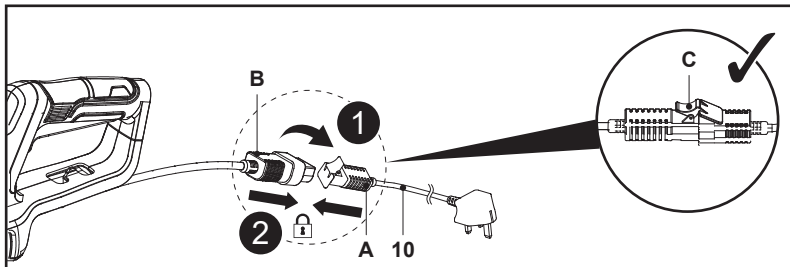

Fig. 2
1. Open the lid (C) of the plug socket (A) on power cord (10), then align the plug pins (B) with the slots of the plug socket (A) and press them together. Ensure proper assembly and then secure the lid (C) in position (Fig. 2, steps 1, 2).